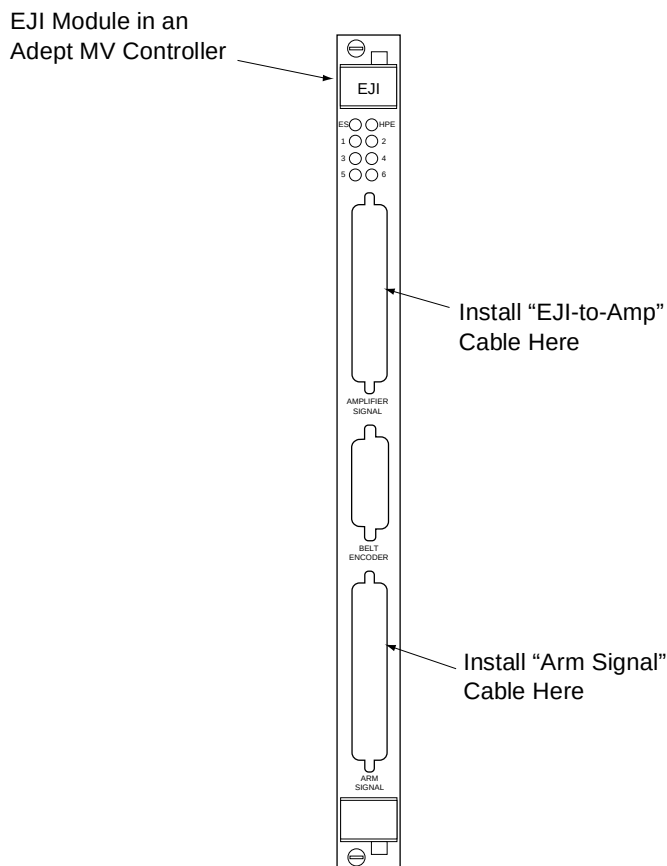

Figure 4-15. Robot-to-EJI Cable Installation
2. Connect the 50-pin D-sub connector to the Arm Signal connector (lower) on the EJI board. Tighten the two captive screws securely. See Figure 4-15.
1. Connect the cable end with the 50-pin connector to the connector marked Amplifier Signal on the EJI board (see Figure 4-15).